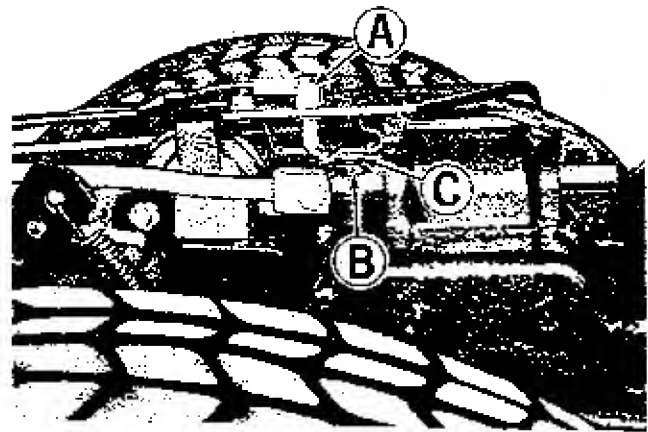

Figure 15. Neutral safety start switch located under seat deck.
3. See figure 15. The neutral safety start switch (A) can be